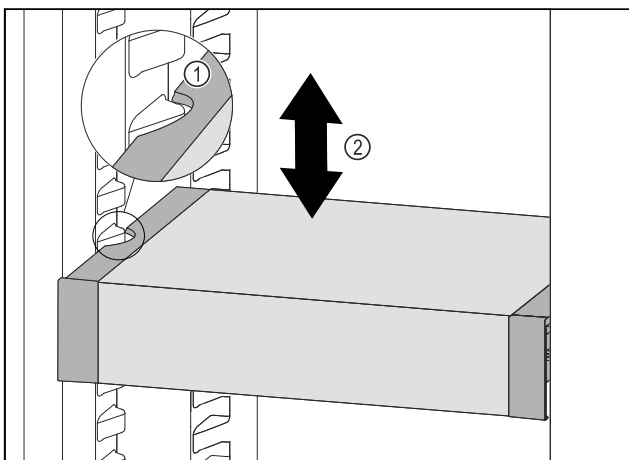

Fig. 92
- ▶ Pull VarioSafe forwards until the recesses in the side of the VarioSafe are at the level of the support rib in the refrigerator compartment. *Fig. 92 (1)*
- ▶ Move VarioSafe up or down in the refrigerator compartment until the desired height is reached. *Fig. 92 (2)*